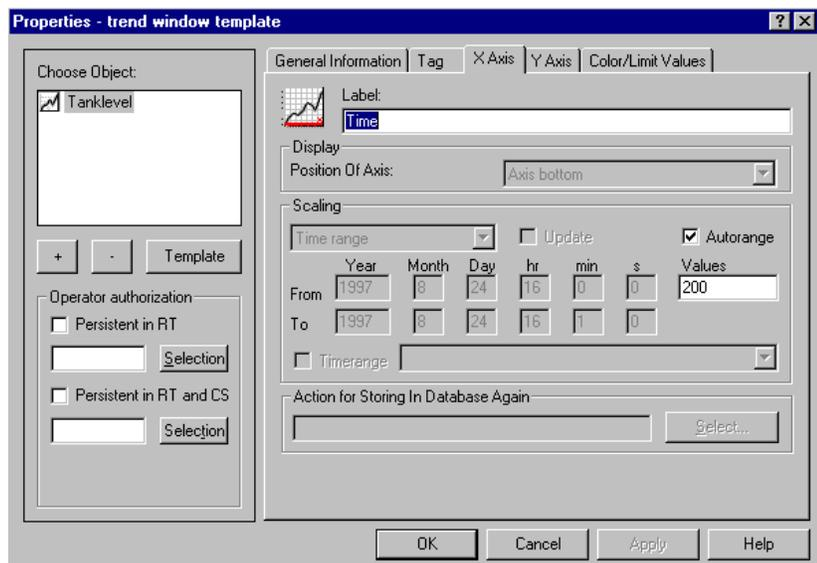

Figure 3.6c WinCC Project "QckStart"; Creating a Trend Window Template
- Select the **X Axis** tab. Name the X axis "Time", select Autorange and enter 200 as the scaling value. See Figure 3.6c.